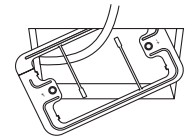

Fig. 8-6
- (1) Remove the metal plate of the receiver by slipping a flathead screwdriver or the like into the cut-out on the bottom.
- (2) Cut out a hole in the ceiling to match the dimensions of the enclosed template. (95 X 51 mm)
- (3) Pass the wiring through the enclosed installation metal fitting and put it into the hole. (Fig. 8-6)